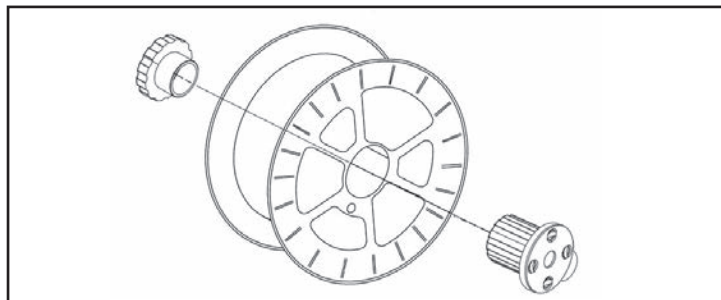

Figure 1 - Spool Assembly
- Loosen the nut of the spool holder (brake-drum) (Fig.1).